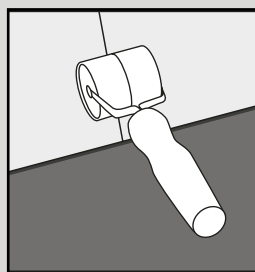
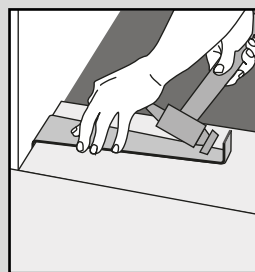

Fig. 4
Fig. 5
5. Continue to install planks across the room until the row is complete using a hand roller to assist (Fig. 4). Only if really necessary use a rubber mallet and off-cut of product to gently tap the product together. A pull bar can be used to pull the product together around the edges of the room (Fig. 5).